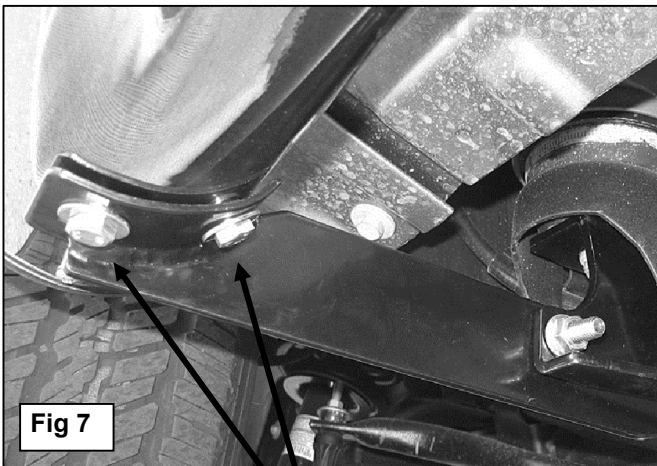

Fig 7
7. Carefully position the Driver Sidebar onto the Mounting Brackets. Attach the Sidebar to the Mounting Brackets with (6) 8mm x 25mm Hex Bolts, (6) 8mm Lock Washers and (6) 8mm Flat Washers, **(Figure 7)**. Do not tighten hardware at this time.